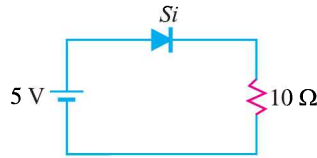

Fig. 6.73
2. Using equivalent circuit, determine the current in the circuit shown in Fig. 6.73. Assume the forward resistance of the diode to be $2\ \Omega$. [358 mA]